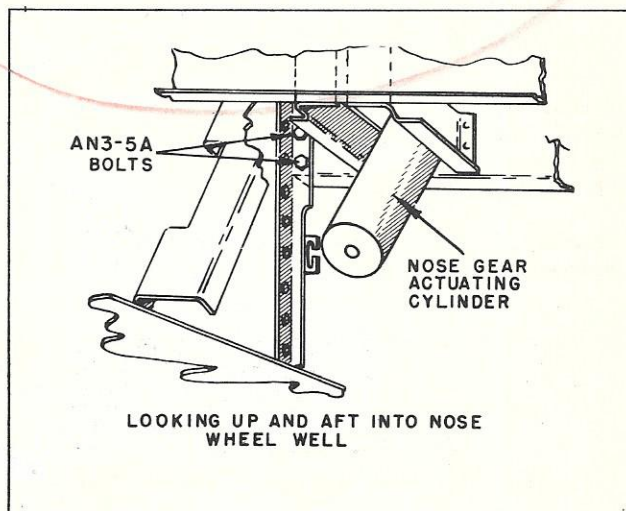

Figure 3
(1) Inspect the nose wheel well area, at the gear retracting cylinder attaching cross member, where the ends attach to nose wheel well side spar, right-hand side upper corner (figure 3), and determine if two proper 3/16-inch high shear rivets are installed. If two 1/8-inch rivets are installed, remove rivets and redrill holes using a No. 12 (.189-inch diameter) drill. Install two each bolts, part No. AN3-5A, washers, part No. AN960-10; and nuts, part No. AN365-1032.
(2) On the left-hand side, upper corner (opposite end of the above), determine if two proper 5/32-inch dural rivets are installed. If two 1/8-inch rivets are installed, drill out rivets and install two each rivets, part No. AN442AD5-5, or drill out holes with No. 12 (.189-inch diameter) drill, and install two each bolts, part No. AN3-5A; washers, part No. AN960-10; and nuts, part No. AN365-1032.